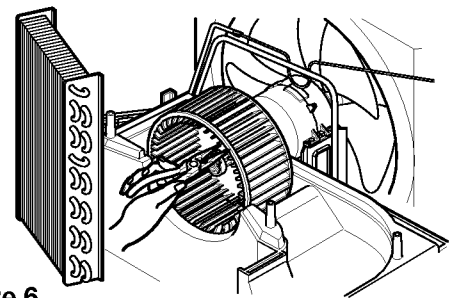

Figure 6
3. Remove the clamp which secures the blower with a hand plier. (See figure 6)